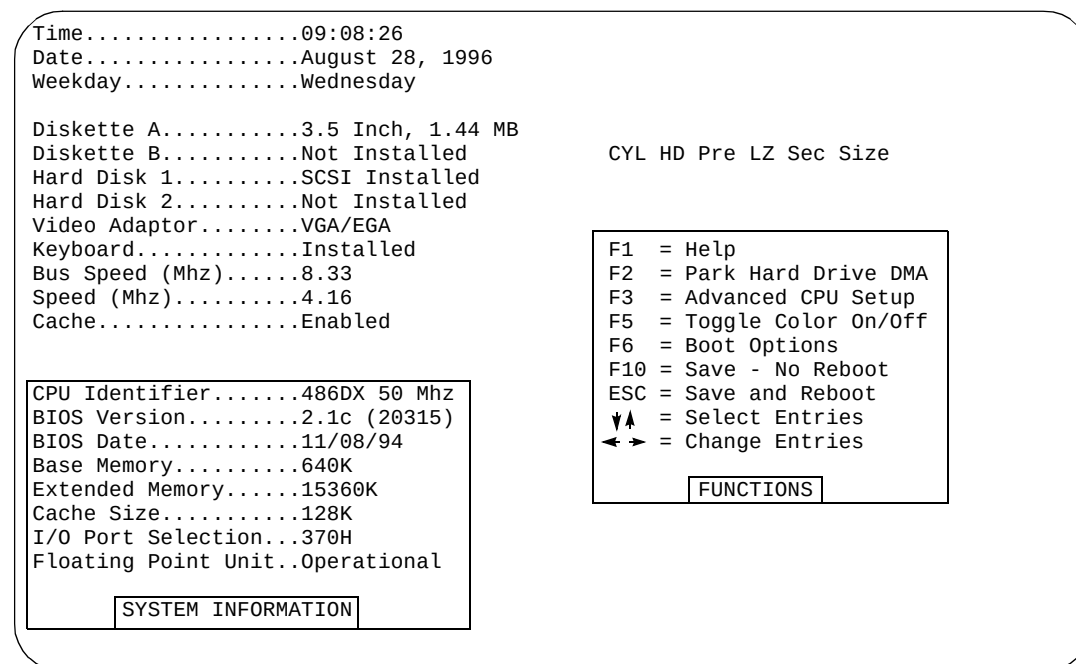

Figure 5-80. CMOS Basic Options Set-Up Screen
After the system has completed POST, it displays the CMOS Basic Options Set-Up screen (Figure 5-80).
1. Starting at the CMOS Basic Options Set-up screen (Figure 5-80), press F6
The system displays the CMOS Basic Options Set-up screen (Figure 5-80).
1. Starting at the CMOS Basic Options Set-up screen (Figure 5-80), press F3